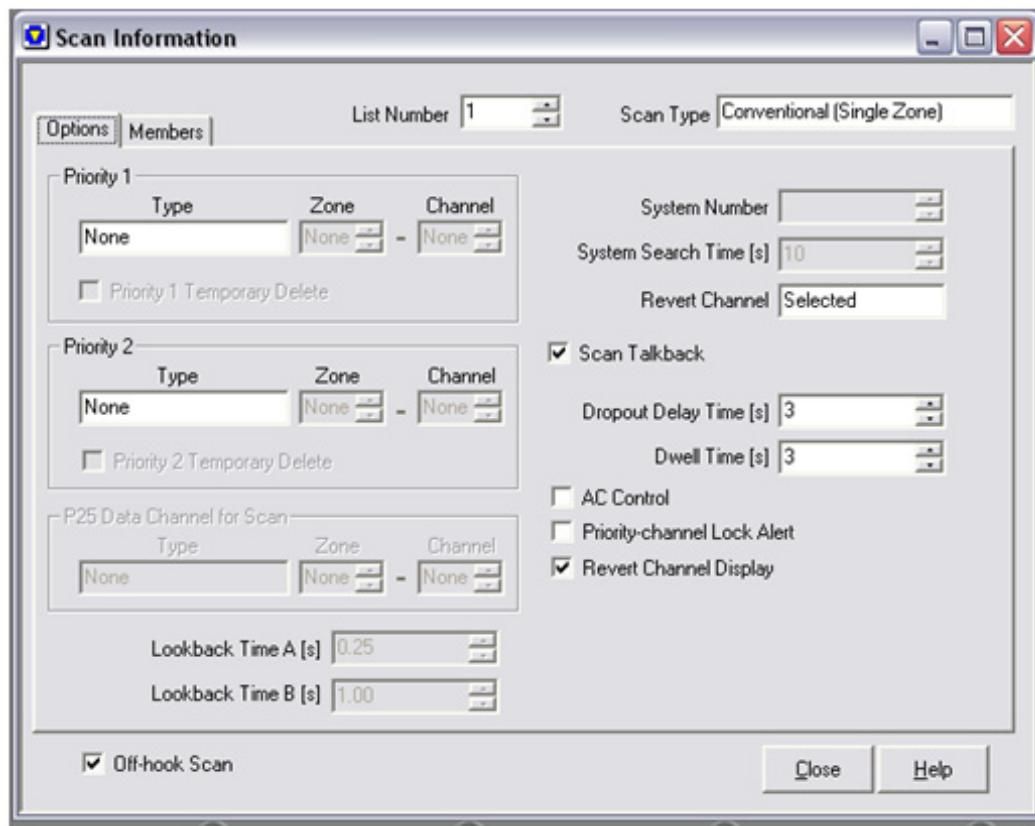

FIGURE 20. Scan Information Window
NOTE: Use Figure 20 with the following instructions.
4. Configure the **fields** using Figure 20.